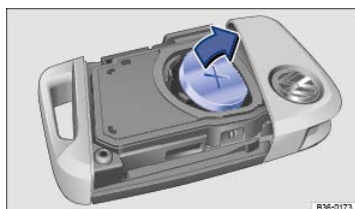

Fig. 56 Remote control vehicle key: Changing the battery.
- Use a thin object to pry the battery out of the battery compartment ⇒ Fig. 56.
- Position the new battery and press it into the battery compartment (opposite direction of the arrow) ⇒ Fig. 56 ⇒ ①.